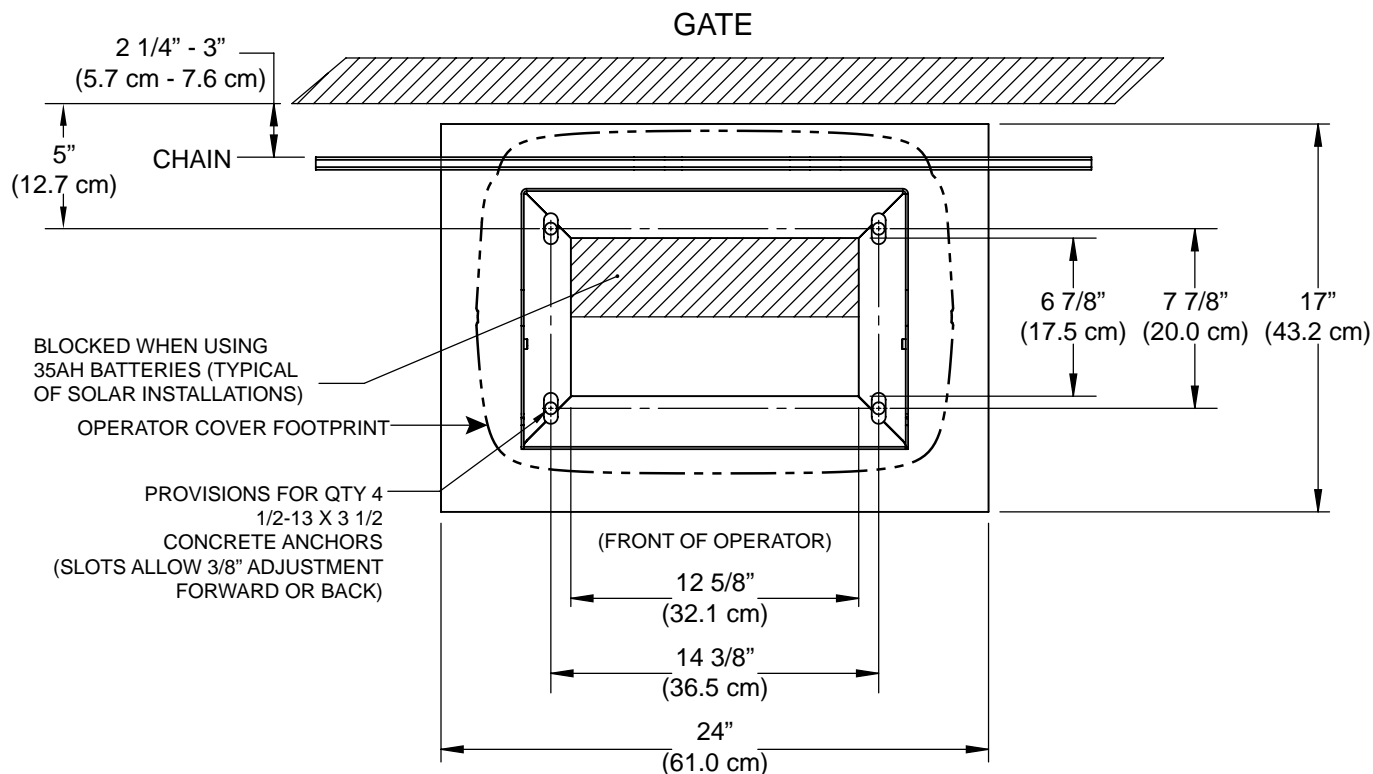
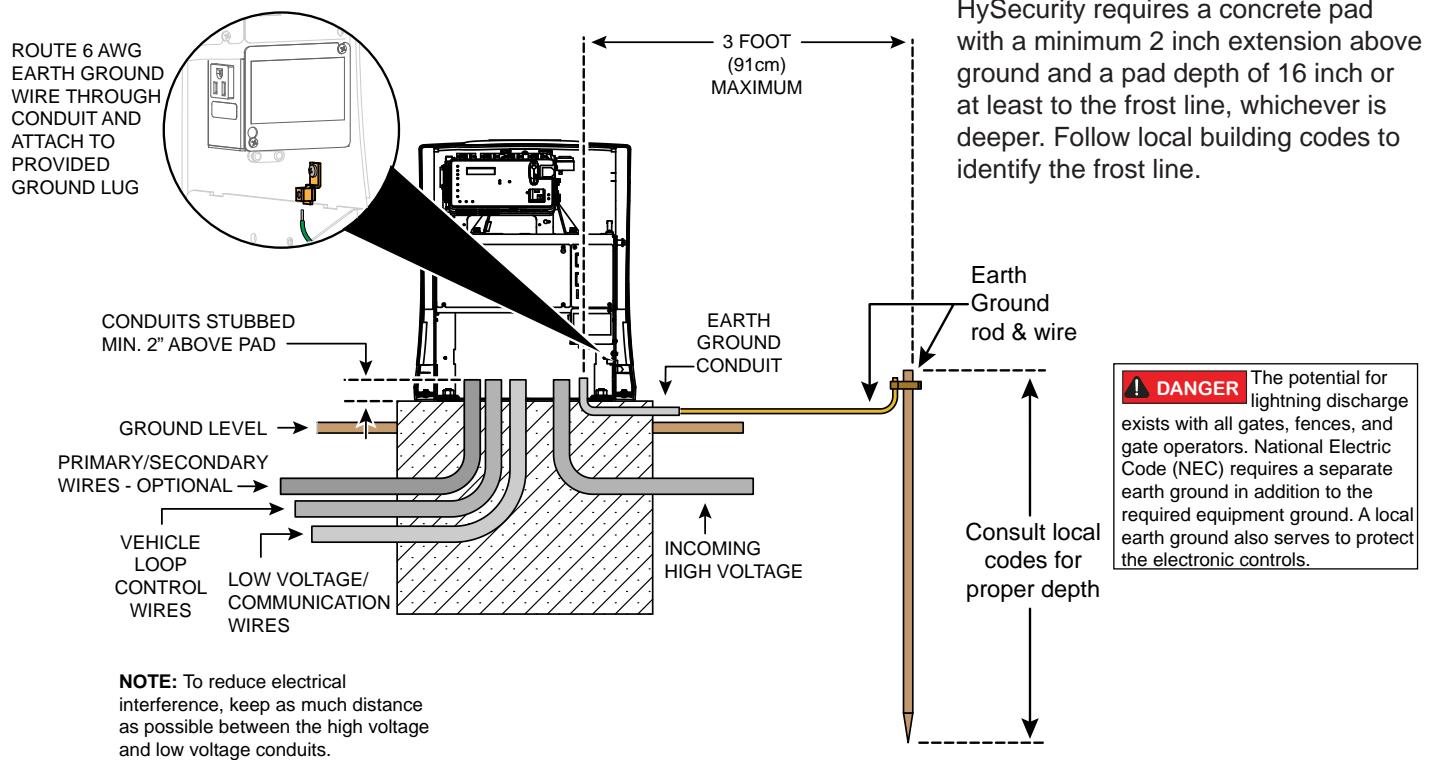

Figure 4. Concrete Pad, Anchor Hole, and Conduit Dimensions
Figure 6. Conduits and Earth Ground
1. Determine the location of the operator from the gate (Figure 4).
2. Refer to Figure 4 for minimum dimensions for a new concrete pad. Refer to Figure 6 for conduit and earth ground requirements.
4. Mark the anchor hole positions on the concrete pad (Figure 4).
4. Mark the new anchor locations (Figure 4).